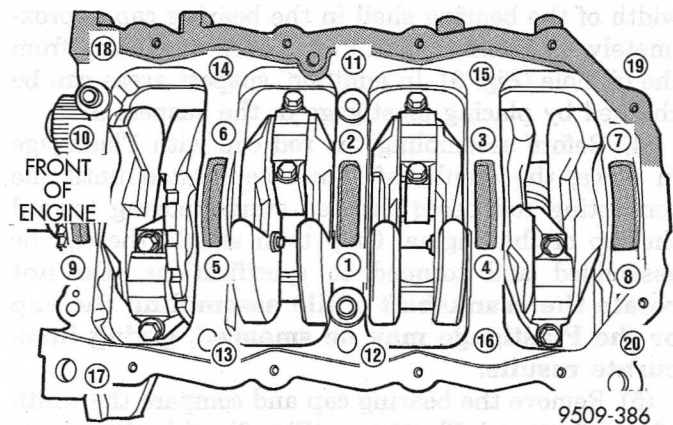

Fig. 13 Main Bearing Caps/Bedplate Torque Sequence
- Step 5: Install and tighten bolts (1 - 10) in sequence shown in (Fig. 13) to 41 N'm (30 ft. lbs.).
(9) Tighten bolts (1 - 10) again to 41 N'm (30 ft. lbs.) + 1/4 turn in sequence shown in (Fig. 13).
(10) Install main bearing bedplate to engine block bolts (11 through 20), and torque each bolt to 28 N'm (20 ft. lbs.) in sequence shown in (Fig. 13).
(11) After the main bearing bedplate is installed, check the crankshaft turning torque. The turning torque should not exceed 5.6 N'm (50 in. lbs.).